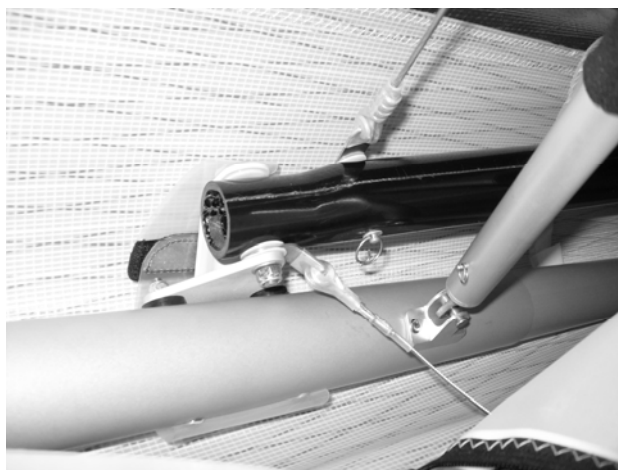

Fig. 31
1. Fully unzip the access zipper to gain access to the crossbar-LE junction (Fig.31).